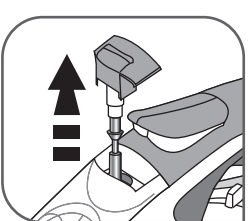

Fig. 18
- **To remove the anti-scale rod, set the thermostat at MAX, press the valve extraction button and pull gently upwards – fig.18.**